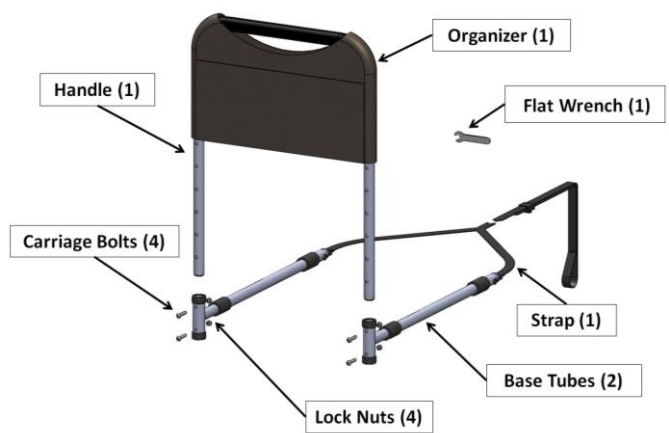

FIGURE 1
1. Remove all parts from the box and identify the parts as shown in Figure 1.